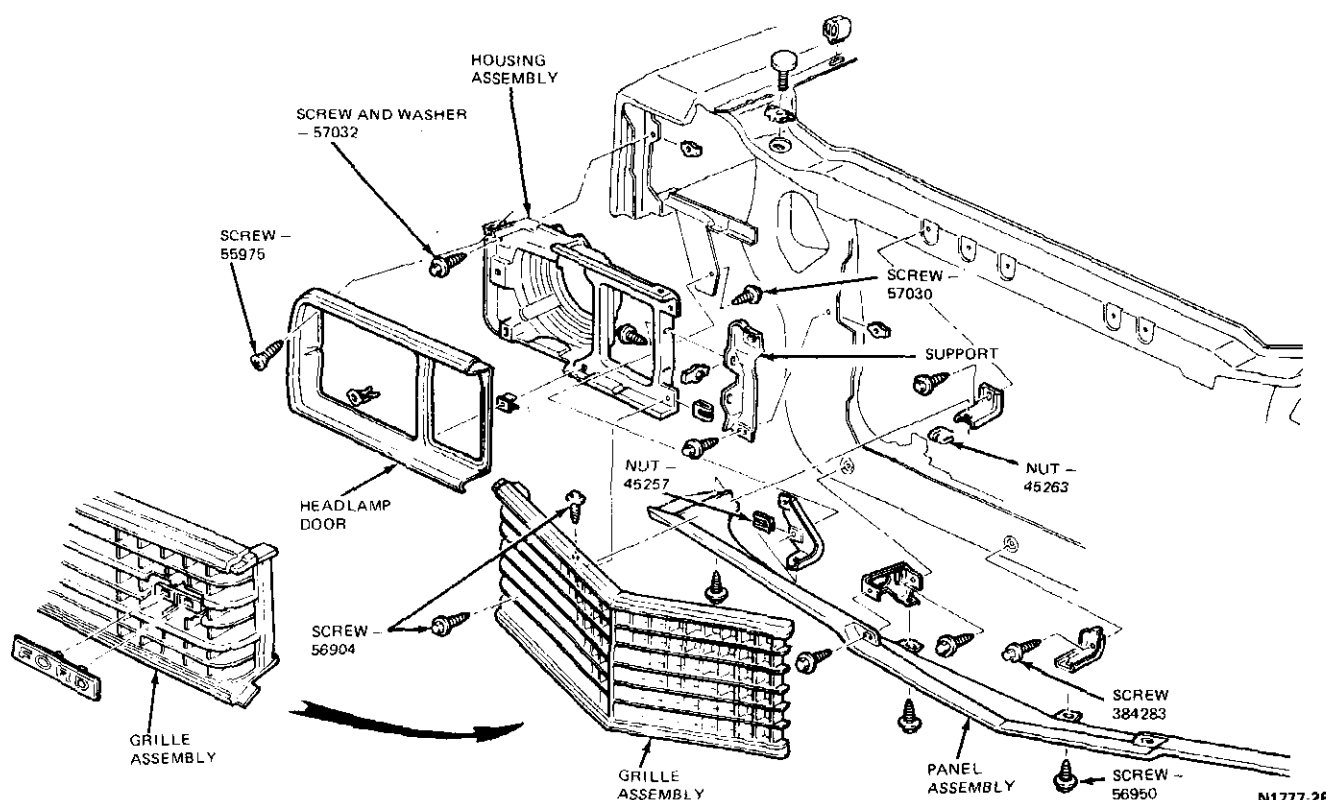

FIG. 1 Radiator Grille—Fairmont Shown—Zephyr Similar
1. Open the hood and remove the retaining screws in the center of the grille and one snap rivet at each end of the grille (Fig. 1).